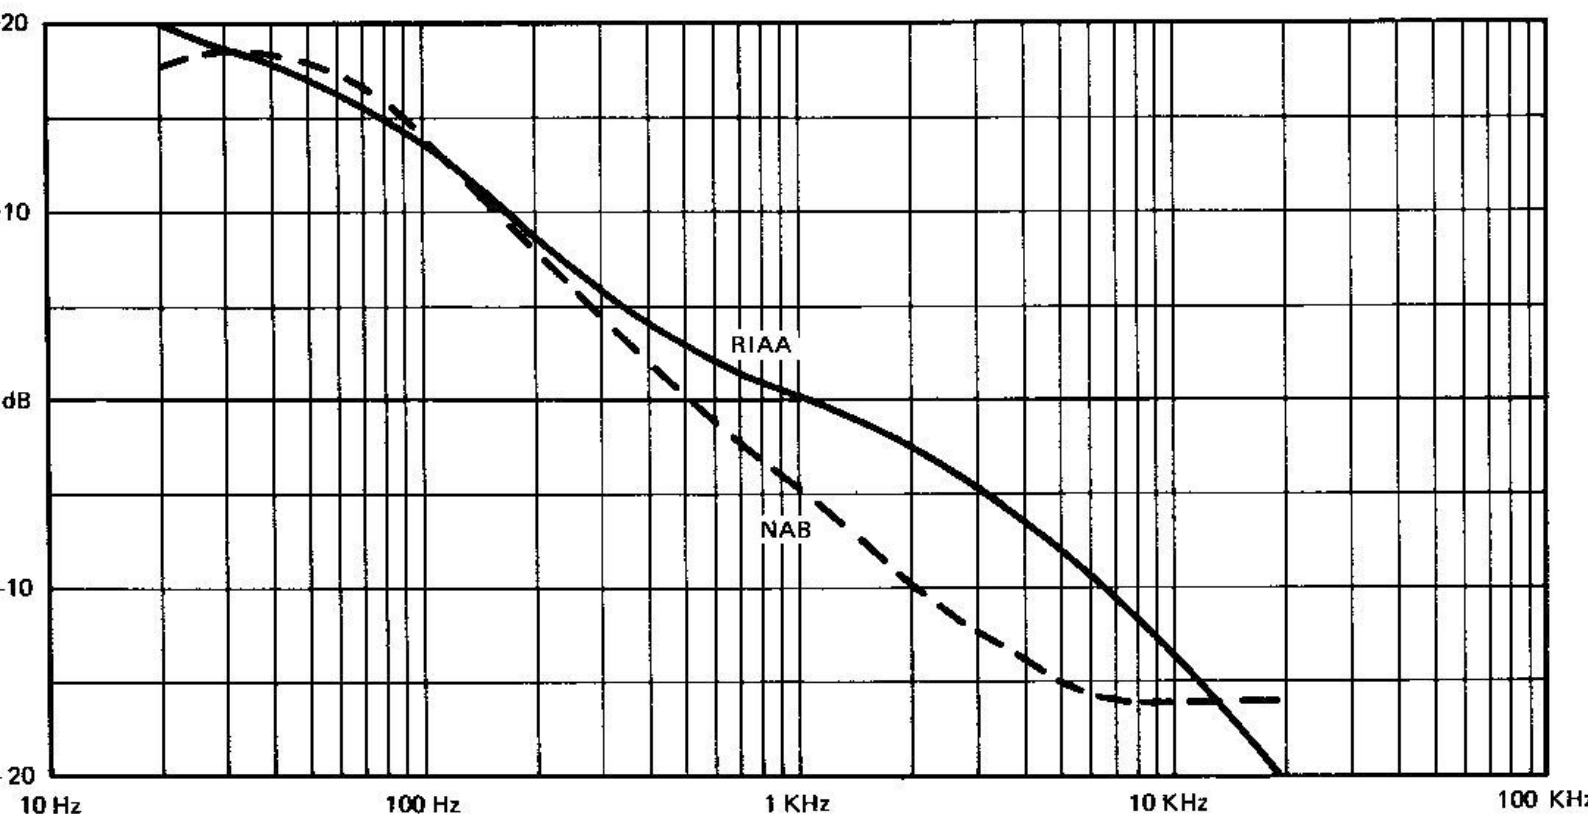

Figure 6. NAB and RIAA Equalization Curves
- e. Set oscillator frequency to 50 Hz. Analyzer should indicate +17.5 dB ± 1 dB, Figure 6.
- f. Set oscillator frequency to 10 KHz. Analyzer should indicate -15.5 dB ± 1 dB, Figure 6.
- e. Set oscillator for 30 Hz. Analyzer should indicate +18.61 dB ± 1 dB, Figure 6.
- f. Set oscillator for 15 KHz. Analyzer should indicate -17.17 dB ± 1 dB, Figure 6.